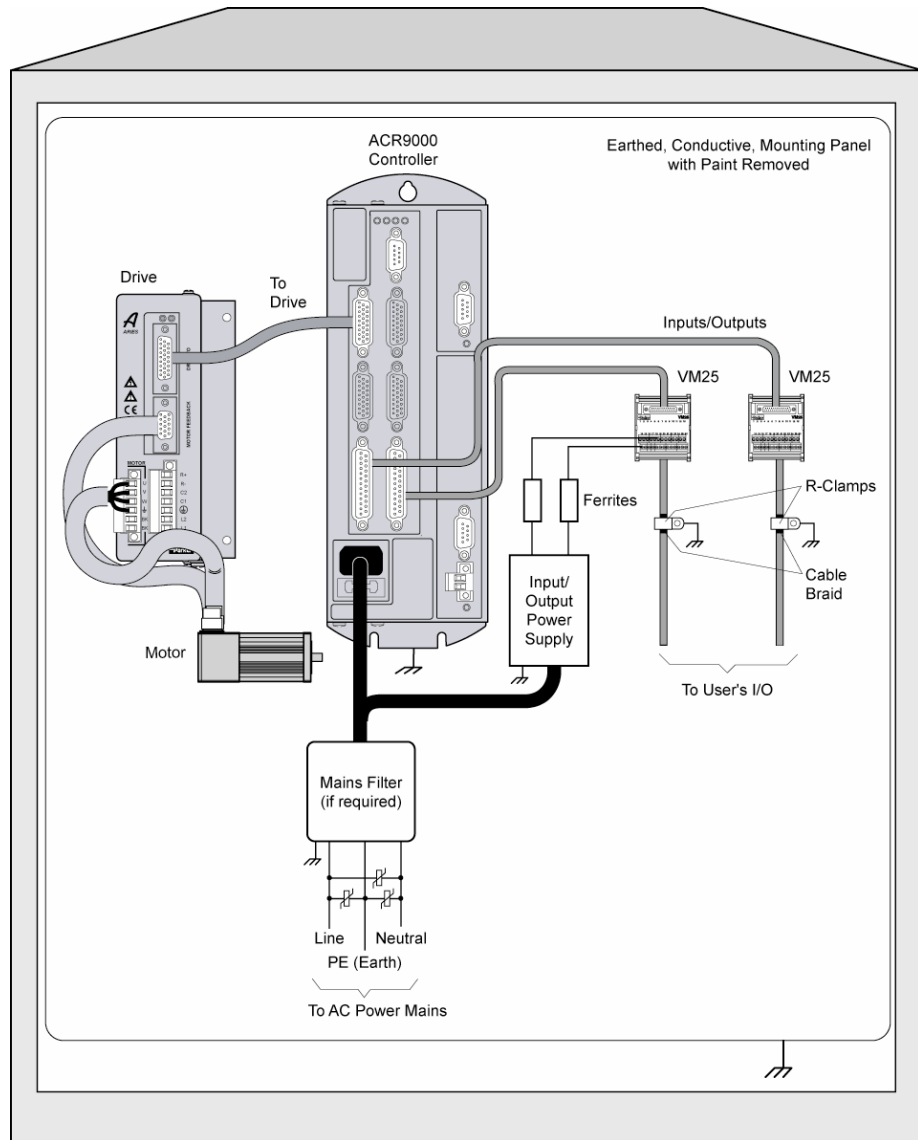

Figure 30 Typical LVD/EMC Installation
- Route cables as shown in the EMC Installation drawing, Figure 30 on page 132.
- Take care that the power supply providing the pull-up voltage to the controller's high-speed inputs and outputs is free from electrical noise. Short-Duration transient events, such as those caused by electrical relays, can induce sufficient voltage disturbance on unfiltered DC power lines to affect I/O performance. One method of reducing the amplitude of transient disturbances on DC power lines is to add ferrite suppressors (3 turns) to the conductors as shown in Figure 30 on page 132.